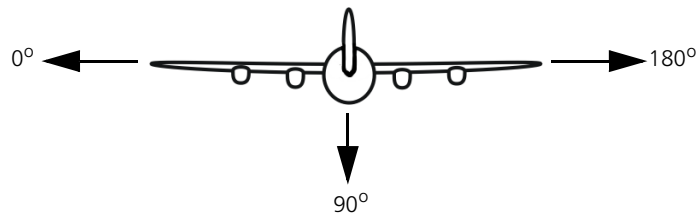

Figure 3-8. Strip SAR Orientation (rear view of plane)
6. Specify the orientation of the sensor. 0 degrees is out the left side of the entity; 90 degrees is straight down; 180 degrees is out the right side (Figure 3-8).